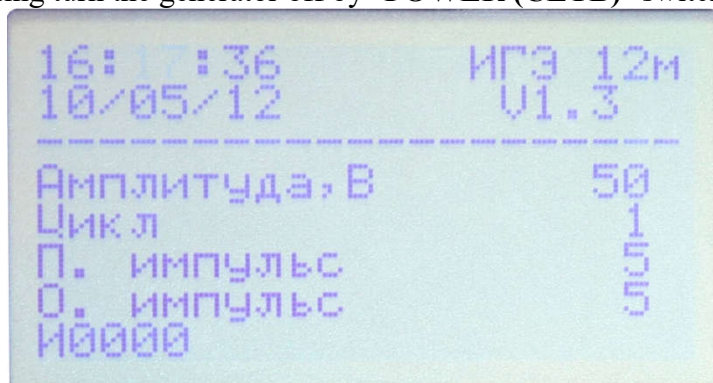

Figure 5
7.10 To install the internal clock of the generator in the clock setting mode when the generator is launched by "POWER (СЕТЬ)" button it is necessary to hold "" button. After that the generator is turned on in the clock setting mode (ref. Figure 5). To select the lines of hours, minutes, seconds, day, month and year setting use "" and "" buttons. Change the value in the selected line by using "+" and "-" buttons. To confirm the settings of the internal clock and turn to the operation mode of the generator, push "START/STOP (ПУСК/СТОП)" button. To cancel the setting turn the generator off by "POWER (СЕТЬ)" switch.